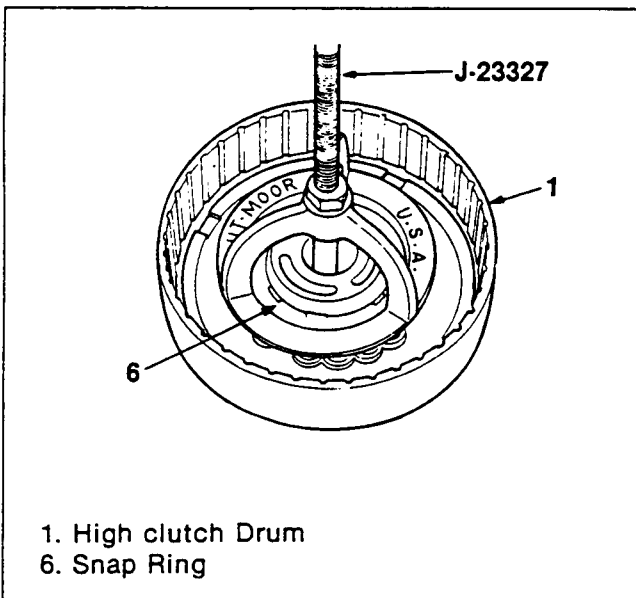

Figure 139. Return Spring Installation (2)
2. Push down the retainer with a spring compressor and install the snap ring (figure 139).